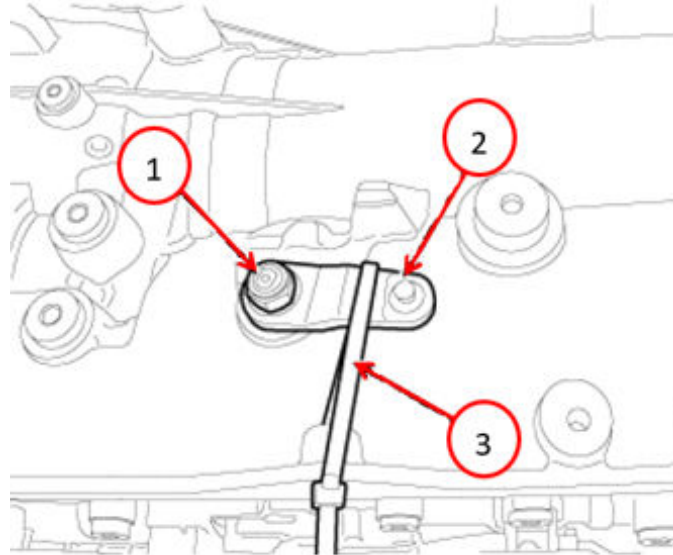

Fig. 40
59. Temporarily install the MPR lever to release tension on the shift fork as follows Fig. 40: